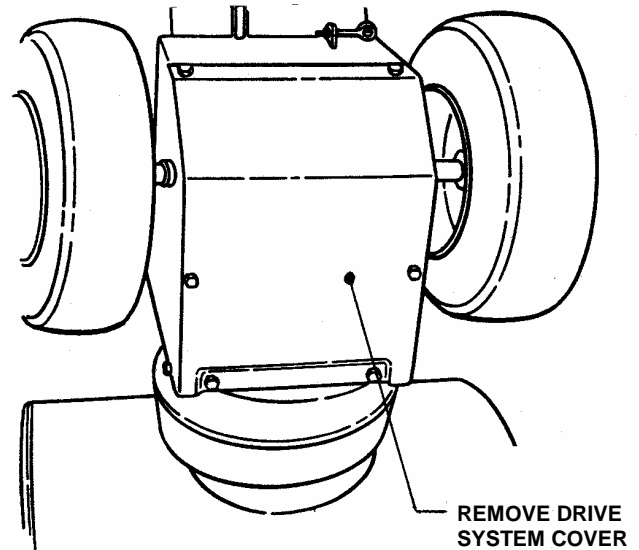

FIGURE 4.5
5. Tilt machine forward to gain access to drive system area. Secure machine in the tilted position to prevent tipping over. Remove drive system cover plate. See Figure 4.5.
1. Tilt machine forward to gain access to drive system area. Secure machine in the tilted position to prevent tipping over. Remove drive system cover plate. See Figure 4.5.